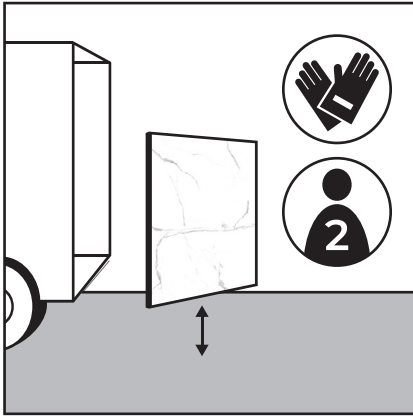

Figure 1
2. Carry the Wall Impression panels as individual pieces using two people (Figure 1).